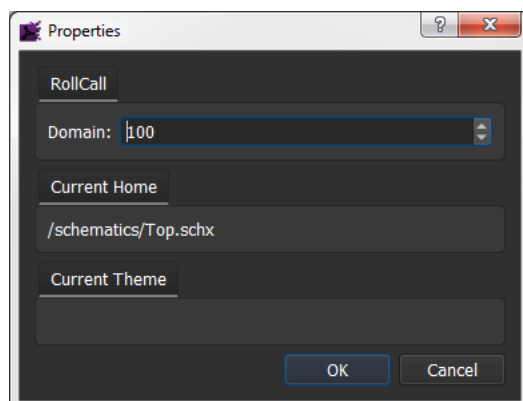

Fig. 8-28: Properties Dialog
- 2 A properties dialog is shown. See Figure 8-28.